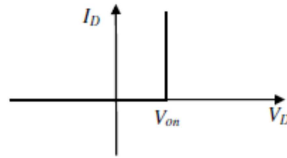

Figure 9 – I-V characteristics of an ideal Diode
A simple model for the current-voltage characteristics of an ideal diode is shown in Figure 9. The diode requires a certain externally applied voltage, V_{on} , to turn on begin to conduct current. Once the diode is 'on' and conducting, the voltage drop across it is approximately constant and independent of the actual current flowing through the device.
- 4) What happens to the voltage across the LED and to the current through it as the signal generator output voltage is adjusted? Does this match what you expect, based on the diagram shown in Figure 9?